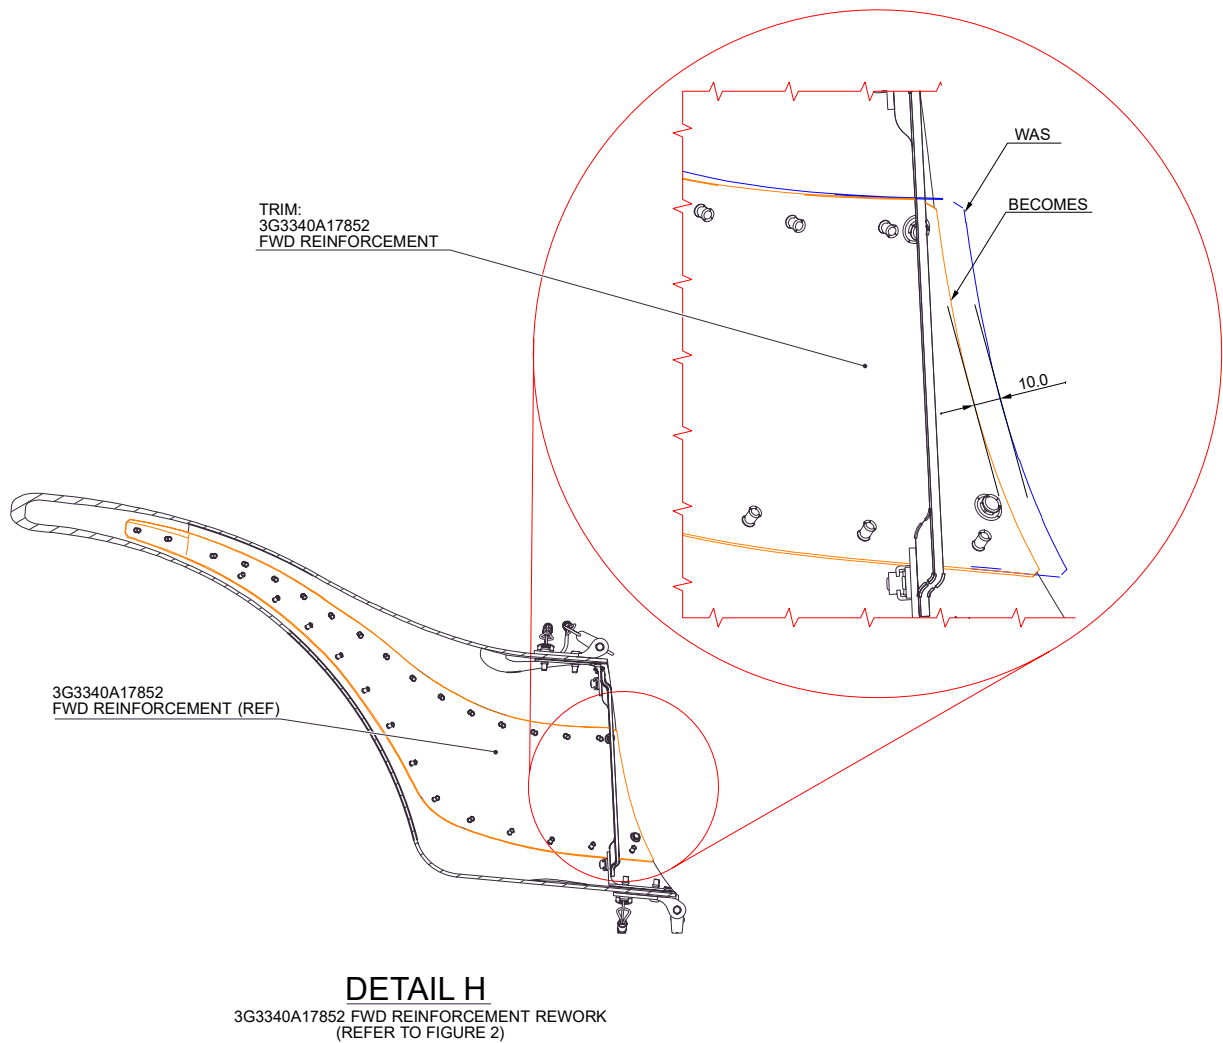

Figure 3
- 4.6.1 With reference to Figure 3 Section G-G, apply a layer (P1) of Carbon fiber dry fabric HexForce G0801 7 1020 and let it cure.
- 4.6.2 With reference to Figure 3 Section G-G, fill 7 screw holes with EA9309NA.
- 4.6.3 With reference to Figure 3 Section G-G, apply a layer (P2 and P3) of Carbon fiber dry fabric HexForce G0801 7 1020 and let them cure.
- 4.10 With reference to Figure 3 Detail X, temporary locate the FWD reinforcement P/N 3G3340A17852 and trim it as indicated.